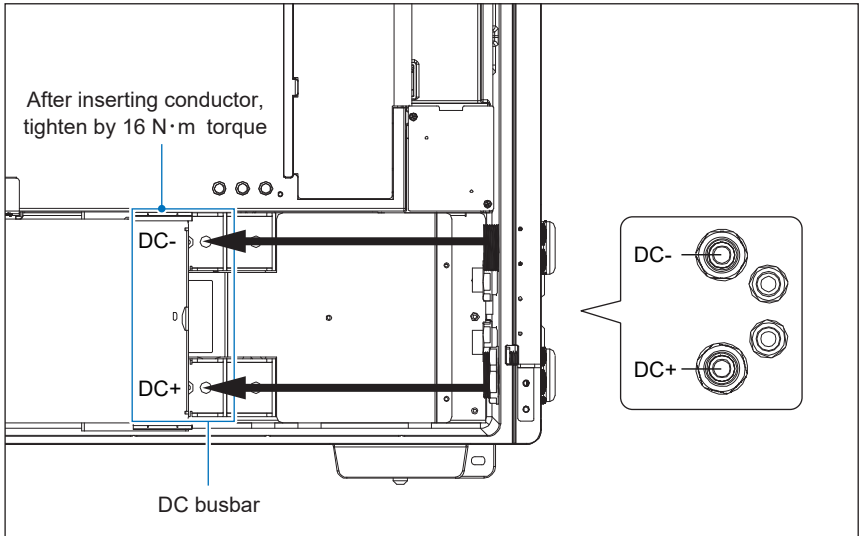

Figure 3-18: wiring of DC busbar (for 1 PV combiner box)
- (1) Pass PV+ or PV- cable through each M40 gland with the proper inner rubber
- (2) Follow the polarity as shown in **Figure 3-18** to insert PV+ or PV- cable to each terminal
- (3) Use M10 spanner to tighten nuts with 16 N-m torque
- (4) Fasten all M40 glands for sealing